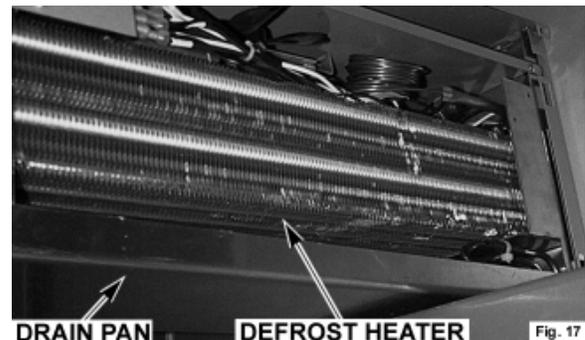

Fig. 17
**Defrost Heater - Freezer Models Only:** Begin by removing the evaporator cover as outlined in section "V a." Next, disconnect the lead wires to the defrost heater and drain pan heater. There is a ground wire attached from the heater shield to the side panel of the evaporator housing (see figure 17).